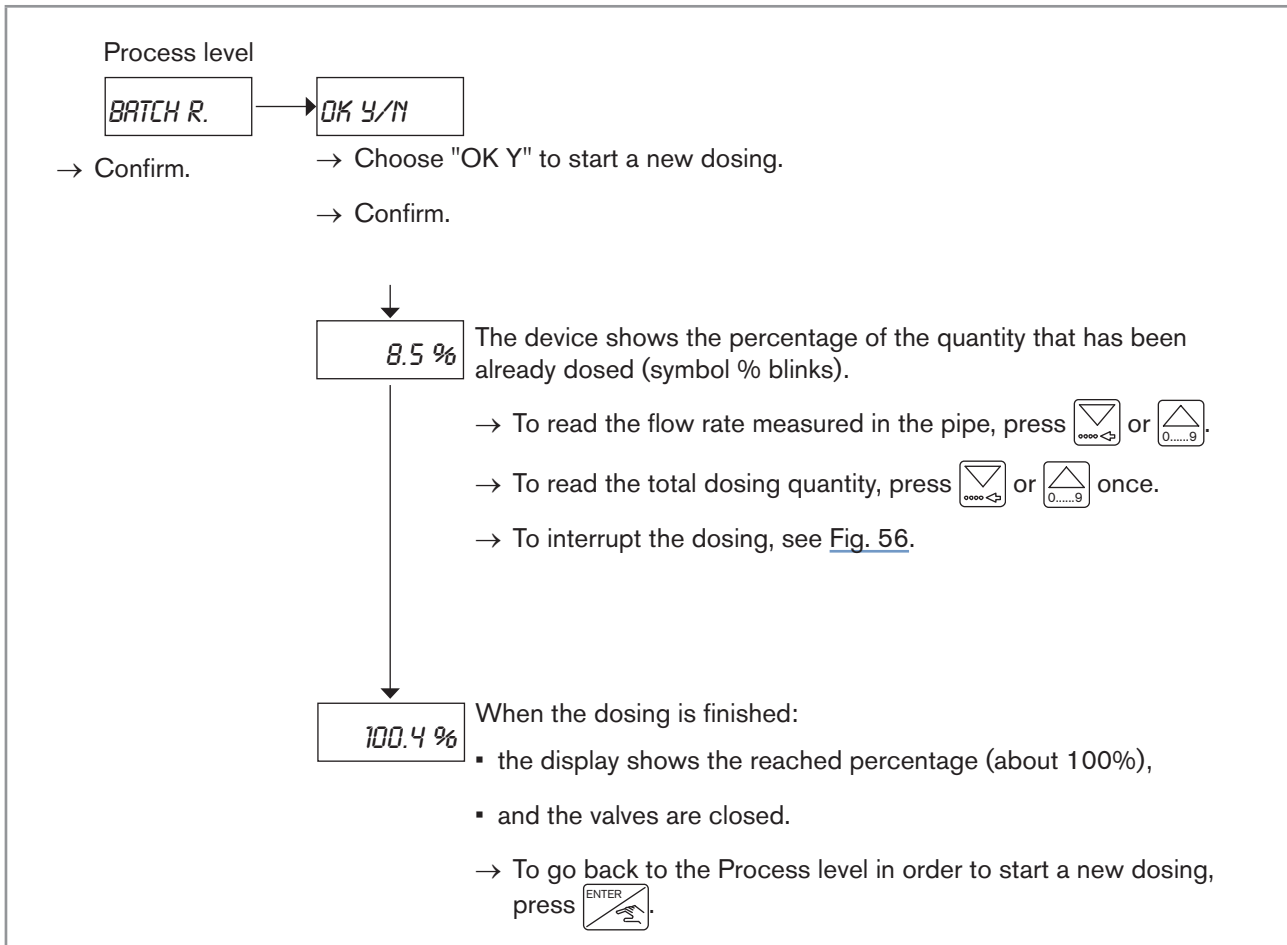

Fig. 55 : Doing a dosing, in dosing mode "LOC. REP."
- Do a dosing as shown in Fig. 55.